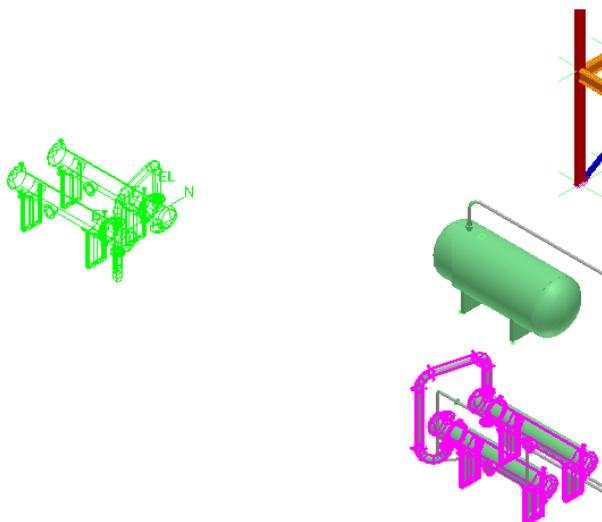

Figure 50: Mirrored Objects in the Graphic View
11. The mirrored objects appear with green bordered outline in the graphic view, as shown in Figure 50.